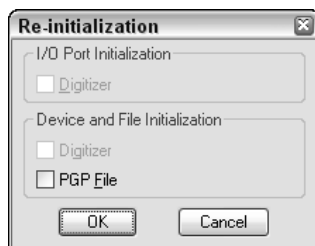

Figure 29-3: The Re-initialization dialog box.
11. Close Notepad. Generally, acad.pgp is accessed only when you load a new or existing drawing. However, you can use the REINIT command to reload the file at any time. Type **reinit** ↵. The Re-initialization dialog box opens, as shown in Figure 29-3.